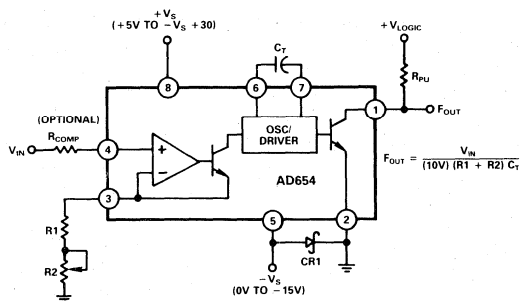
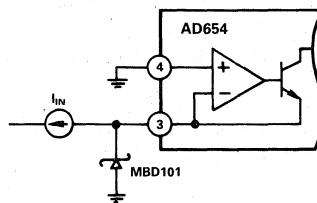

Figure 1. Standard V-F Connection for Positive Input Voltages
Figure 5. Input Protection
The AD654's block diagram appears in Figure 1. A versatile operational amplifier serves as the input stage; its purpose is to convert and scale the input voltage signal to a drive current in the NPN follower. Optimum performance is achieved when, at the full scale input voltage, a 1mA drive current is delivered to the current-to-frequency converter (an astable multivibrator). The drive current provides both the bias levels and the charging current to the externally connected timing capacitor. This "adaptive" bias scheme allows the oscillator to provide low nonlinearity over the entire current input range of 100nA to 2mA. The square wave oscillator output goes to the output driver which provides a floating base drive to the NPN power transistor. This floating drive allows the logic interface to be referenced to a level other than  $-V_S$ .
In the connection scheme of Figure 1, the input amplifier presents a very high (250M $\Omega$ ) impedance to the input voltage, which is converted into the proper drive current by the scaling resistors at pin 3. Resistors R1 and R2 are selected to provide a 1mA full scale current with enough trim range to accommodate the AD654's 10% FS error and the components' tolerances. Full scale currents other than 1mA can be chosen, but linearity will be reduced; 2mA is the maximum allowable drive. The AD654's positive input voltage range spans from  $-V_S$  (ground in single supply operation) to four volts below the positive supply. Power supply
As indicated by the scaling relationship in Figure 1, a 0.01 $\mu F$  timing capacitor will give a 10kHz full scale frequency, and 0.001 $\mu F$  will give 100kHz with a 1mA drive current. Good V/F linearity requires the use of a capacitor with low dielectric absorption (DA), while the most stable operation over temperature calls for a component having a small tempco. Polystyrene, polypropylene, or Teflon\* capacitors are preferred for tempco and dielectric absorption; other types will degrade linearity. The capacitor should be wired very close to the AD654. In Figure 1, Schottky diode CR1 (MBD101) prevents logic common from dropping more than 500mV below  $-V_S$ . This diode is not required if  $-V_S$  is equal to logic common.
The AD654 was designed to be used with a minimum of additional hardware. However, the successful application of a precision IC involves a good understanding of possible pitfalls and the use of suitable precautions. Thus  $+V_{IN}$  and  $R_T$  pins should not be driven more than 300mV below  $-V_S$ . Likewise, Logic Common should not drop more than 500mV below  $-V_S$ . This would cause internal junctions to conduct, possibly damaging the IC. In addition to the diode shown in Figures 1 and 2 protecting Logic Common, a second Schottky diode (MBD101) can protect the AD654's inputs from "below  $-V_S$ " inputs as shown in Figure 5. It is also desirable not to drive  $+V_{IN}$  and  $R_T$  above  $+V_S$ . In operation, the converter will exhibit a zero output for inputs above  $(+V_S - 3.5V)$ . Also, control currents above 2mA will increase nonlinearity.